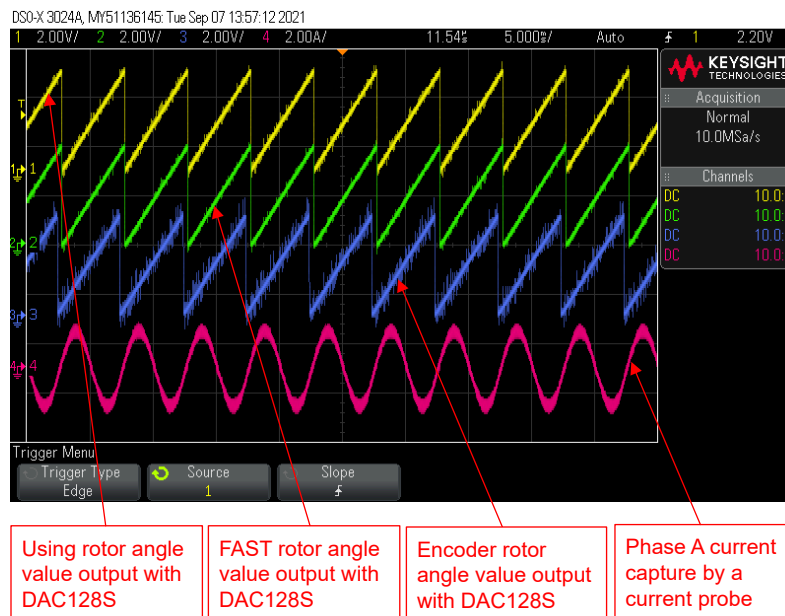

Figure 2-45. Build Level 4: Rotor Angle with FAST and Encoder, Phase Current Waveforms at Forward Rotation
- The estimated rotor angles from FAST and Encoder are shown in Figure 2-45. The motor is running with FAST at forward rotation by setting motorVars_M1.speedRef_Hz to a positive value.
Use DAC128S085EVM with an oscilloscope to monitor rotor angle of the motor from the FAST estimator and encoder, and a phase current of the motor as shown in Figure 2-45 when the motor is running at forward rotation by setting *motorVars_M1.speedRef_Hz* to a positive reference value.